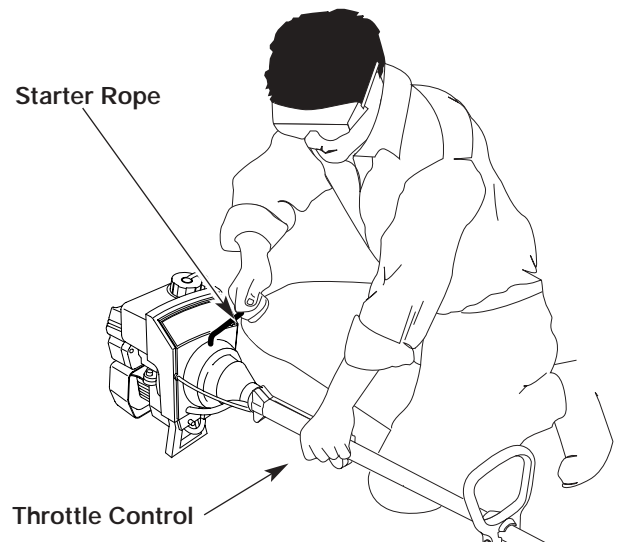

Fig. 8
**WARNING:** Avoid accidental starting. Make sure you are in the starting position when pulling the starter rope (Fig. 8). To avoid serious injury, the operator and unit must be in a stable position while starting.
4. Crouch in the starting position (Fig. 8) and squeeze the throttle control.